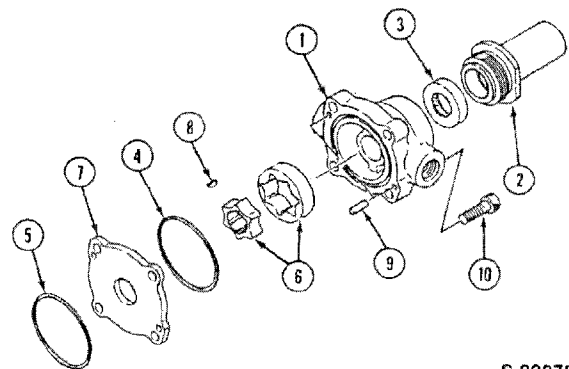

Figure 52
1. Remove the throw-out bearing hub (2), Figure 52.